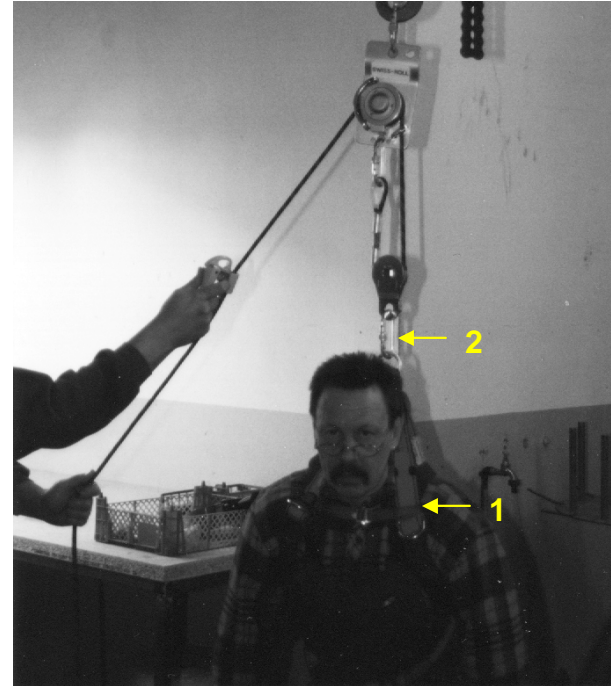

Abbildung 29
1. Hold the rope stop unit with the left hand on the handle and with the right hand on the idle rope a little below the rope stop unit (Fig.29)
5.2. For entry (Abb. 29)
5.2.1. [P] Don the entry belt (1) um (Abb. 29).
5.2.2. [S] Hang the load rope carabine on the entry harness (2) (Abb. 29)